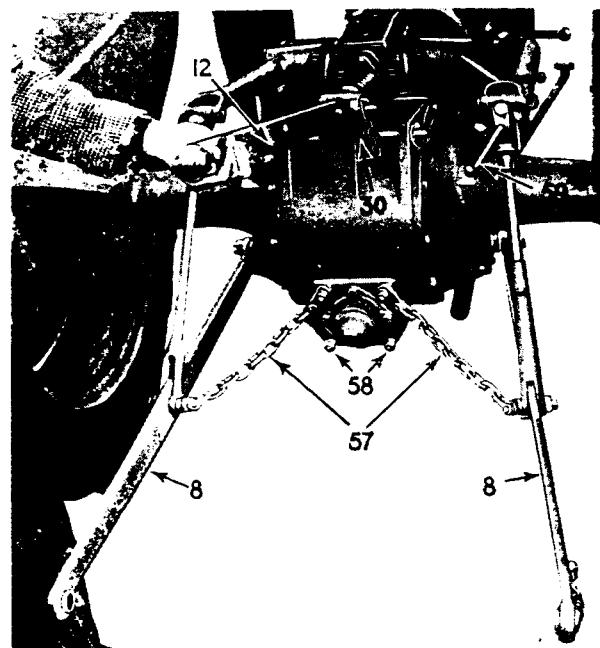

FIG. 23
The lower links (8) illustrated in Figure 23 are mounted by ball joints to brackets cast on the rear axle casing and are retained by castellated nuts and split pins. They are raised and lowered by lift rods which, at the upper ends, are carried by universal joints on the hydraulic lift arms.
It is particularly important that the lower links are correctly mounted as shown in Fig. 23, with straight edges uppermost at the rear, and cut-away edges uppermost at the front. If lower links are not mounted in this manner, the upper edges may possibly foul the rear axle casing before hydraulic control valve, shut-off causing overloading of the hydraulic control mechanism.
mechanism. It would also restrict the ability of the implement to swing and could seriously affect its performance. Take care, too, that the chain anchors are assembled correctly, with the chain anchored above centre, as shown in Fig. 23.